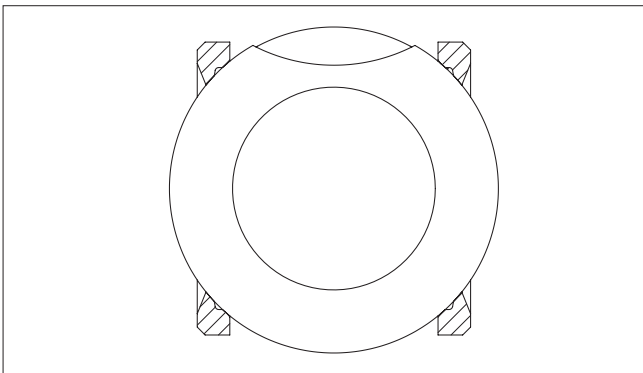
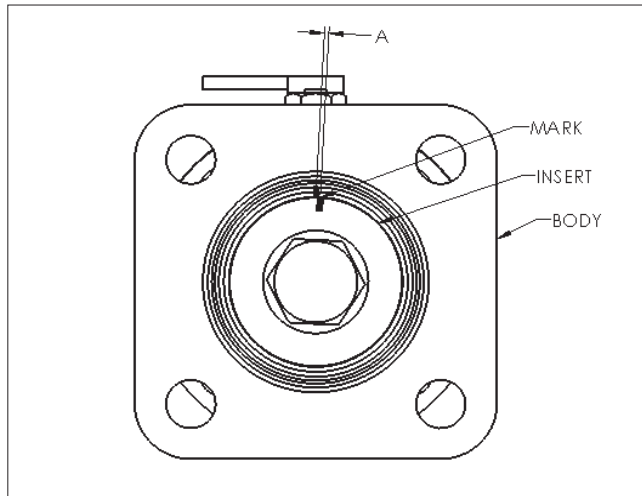

Figure 5. Seats should be in this position at Assembly.
Figure 7.
3. Clamp the valve body (1) securely in a vise in the vertical position with the insert end up, taking care not to damage any valve sealing surfaces.
4. Place one valve seat (5) sidewise into the body cavity (1) to just below the stem hole and tilt it into place so that the proper face will come in contact with the ball (3) (see **Figure 5**).
12. Align the stem (5) to the ball slot. Insert the ball (3) rotating it onto the stem (4) in the closed position. If necessary turn the stem blade to align with the ball slot.
13. Insert the second seat (7) with the seat sealing surface towards the ball. (See **Figure 5**).
14. Insert the body seal (6) onto the insert (2).
15. Make sure there is no dirt and grit in the insert (2) threads. Using a thread lubricant compatible with the media, screw the insert (2) into the body (1) and tighten the insert. Insert must be tightened the same number of turns as in step 11, insuring that the marks are either lined up or insert mark is $\pm 1/8$ " (Dimension A) either side of the body mark, as shown in **Figure 7**.